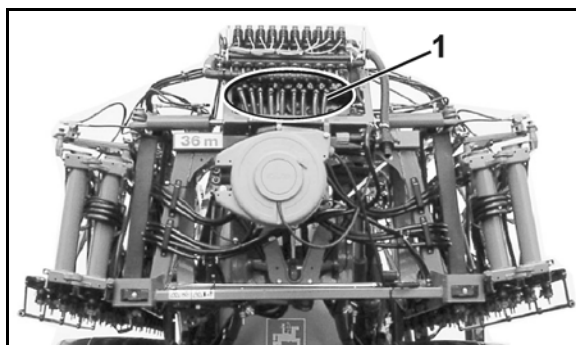

Fig. 156
13. Remove all the spray lines from the part width section valves (Fig. 156/1) and blow out with compressed air.